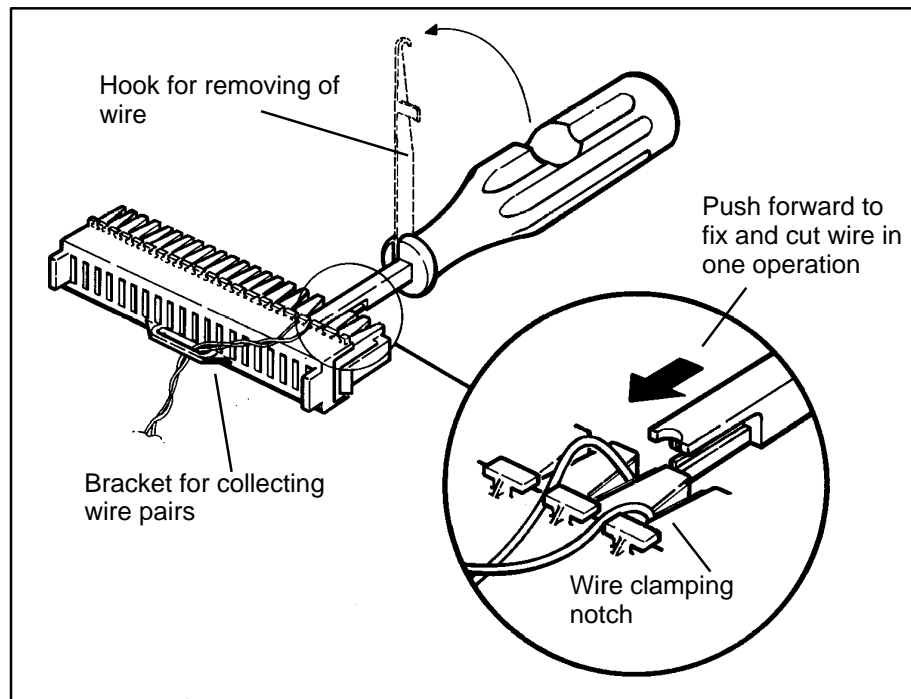

Figure 40 How to use tool LSY 138 252
12. Position terminal tool against the slot and the wire, see figure 40. Press the tool firmly into the slot. The wire is now connected and cut at the same time. Remove the tool and excess wire.